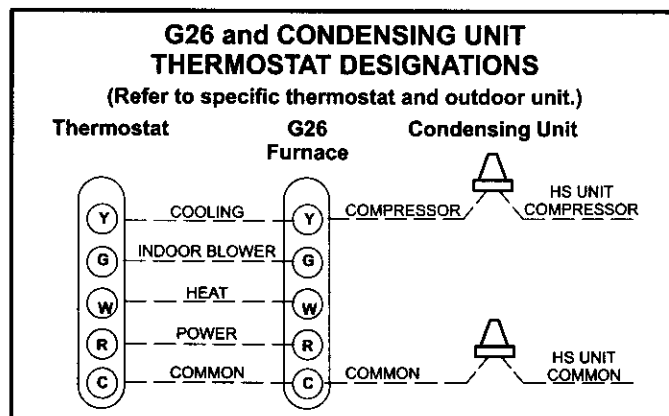

FIGURE 28
Figure 28 shows thermostat designations for identifica-
- 9 - Install room thermostat according to instructions provided with thermostat. See figure 28 for thermostat designations. If furnace is being used with heat pump refer to FM21 installation instruction.